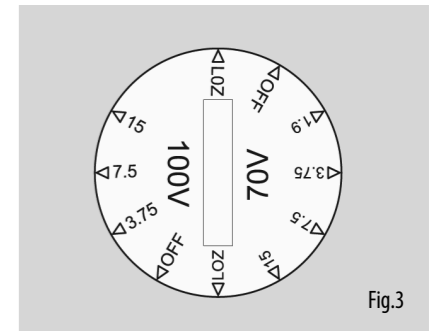

Fig.3
4. The CVS 4 Micro (EN54) is fitted with a 15 W transformer. When used in distributed-line systems, the transformer can be tapped at 15 W, 7.5 W and 3.75 W, with an additional 1.9 W tapping for 70.7 V line systems. (Fig.3)